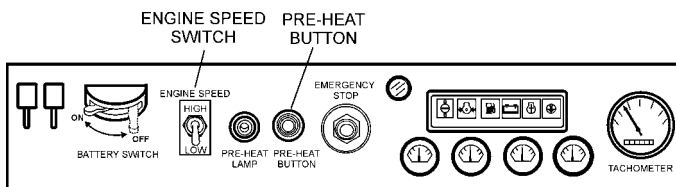

Figure 59. Engine Operating Panel
Steps 20 thru 26 are referenced for Engine Operating Panel S/N 3699248~. See Figure 59 below. This panel does not have an ignition switch. It does have a "**pre-heat button**" and a "**engine speed switch**" that is used in conjunction with the MPEC unit.
21. Press and hold the engine preheat button (Figure 59) until the preheat lamp is lit (**ON**).